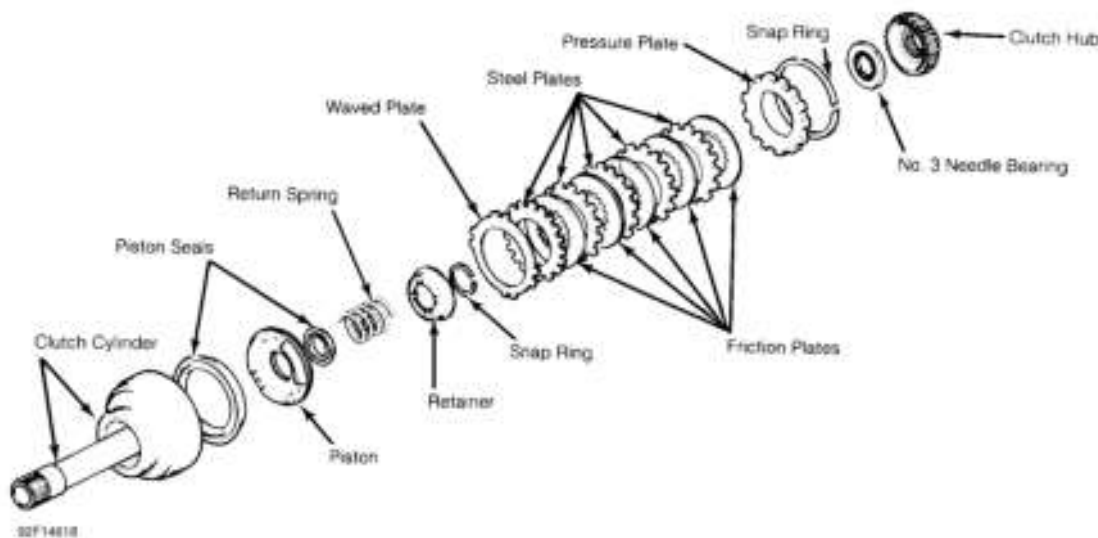

Fig. 35: Exploded View of Forward Clutch Assembly
1. Lift clutch hub and No. 3 needle bearing from forward clutch assembly. Using a screwdriver, pry clutch pack selective retaining snap ring from drum. Remove clutch pack. See **Fig. 35**.